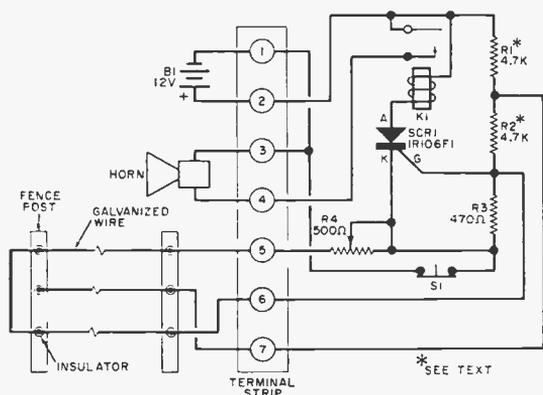

Fig. 1. Fence wires form closed loops and are resistively balanced with system. Imbalance due to short or open circuit will trigger alarm system.
**A** FENCE ALARM system is a good idea providing it can't be bypassed or deactivated by a clever intruder. It should actually fool him into thinking it's something it isn't and sound the alarm if tampered with in any way. This system does the job easily. A combination of open and closed loops in the fence circuit (see Fig. 1) is employed to control the gate of silicon controlled rectifier *SCR1* which, in turn, controls the signaling device—either a horn or a lamp. The SCR is in series with a 12-volt horn relay and is gated off when the system is armed but not tripped. Resistors *R1-R4* are in parallel with each other when the SCR is not conducting current.
Referring to Fig. 1, mount all of the components shown to the right of the screw-type terminal strip (except *R1* and *R2*) and the terminal strip on a small chassis (for indoor installations, mount the terminal strip on the utility box cover). The photos show the alarm system built for indoor installations.